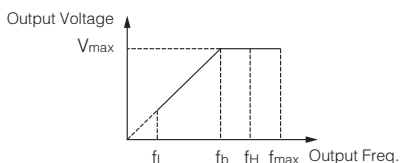

Figure F0-1 Voltage and Frequency
The maximum output frequency is highest allowed frequency for output, and the reference of acc./dec. time setting, as f_{max} showed in the following figure; basic running frequency is the minimum frequency when output highest voltage, usually the rated frequency of motor, as f_b showed in the following figure; the maximum output voltage V_{max} is the output voltage when output basic running frequency, usually rated voltage of the motor, as V_{max} showed in the following figure; f_H , f_L are defined as upper limit frequency and lower limit frequency separately, as showed in figure F0-1:
- ◇ **The maximum output frequency, upper limit frequency and lower limit frequency have relations as showed in figure F0-1, please notice the numerical value order when setting.**